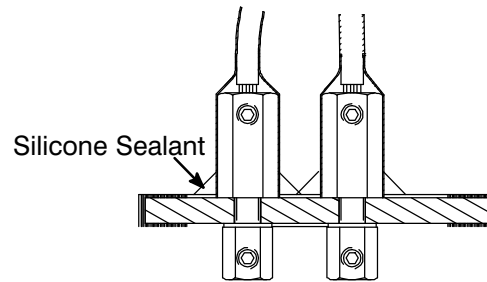
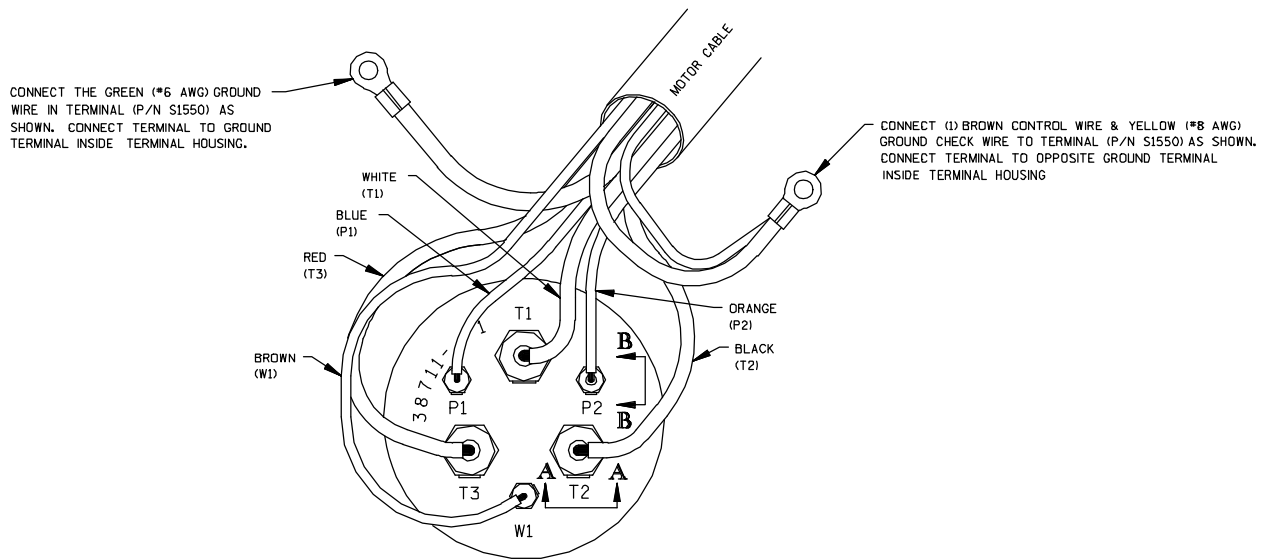

Figure C-4. Silicone Adhesive Sealing
Figure C-5. Terminal Housing Wiring Connections
Slide a length of heat-shrink tubing (10 and 27) up over each of the power cable leads, then connecting them to the appropriate terminals (12 and 24) as shown in Figure C-5. Secure the leads with the setscrews (11 and 25).
See Figure C-5 and check terminal locations. Apply a 1/4 to 3/8 in. (6,4 to 9,7 mm) thick layer (maximum) of silicone adhesive around each of the terminal posts as shown in Figure C-4. Remove any adhesive from gasketed surfaces.
Position the lower terminal plate gasket (21) on the terminal plate (22). Refer to Figure C-5. Attach the appropriate motor lead (T1, T2, T3, P1 and P2) to each terminal post (15 and 17) using the allen head setscrews (16 and 18).